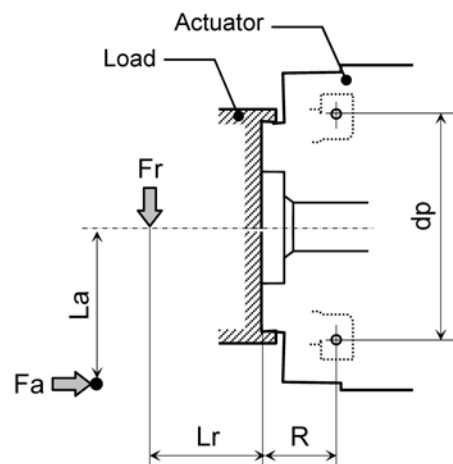

Fig.1 Loads
F_{rmax} : Maximum radial load in N(kgf); See Fig.1.
F_{amax} : Maximum axial load in N(kgf); See Fig.1.
L_r , L_a : Loading point in mm; See Fig.1.
R : Offset: See Fig.1 and Table 1.
- M_{max} : Maximum torsional moment in $N \cdot m$ ($kgf \cdot m$); obtained by the formula (1).
- F_{rmax} : Maximum radial load in N (kgf); See Fig.1.
- F_{amax} : Maximum axial load in N (kgf); See Fig.1.
- L_r, L_a : Loading point in mm ; See Fig.1.
- R : Offset; See Fig.1 and Table 1.
- dp : Circular pitch of roller: See Fig.1 and Table 1.
- F_{rav}: Average radial load in N(kgf); obtained by formula (2).
- F_{aav}: Average axial load in N(kgf); obtained by formula (3).
- d_p: Circular pitch of roller: See Fig.1 and Table 1.
- X: Radial load factor; obtained by formula (5)
- L_r, L_a: Loading point in mm; See Fig.1.
- R: Offset; See Fig.1 and Table 1.
- Mmax: Maximum torsional moment in N·m(kgf·m); obtained by the formula (1)
- Frmax: Maximum radial load in N(kgf); See Fig.1.
- Famax: Maximum axial load in N(kgf); See Fig.1.
- dp: Circular pitch of roller: See Fig.1 and Table 1.